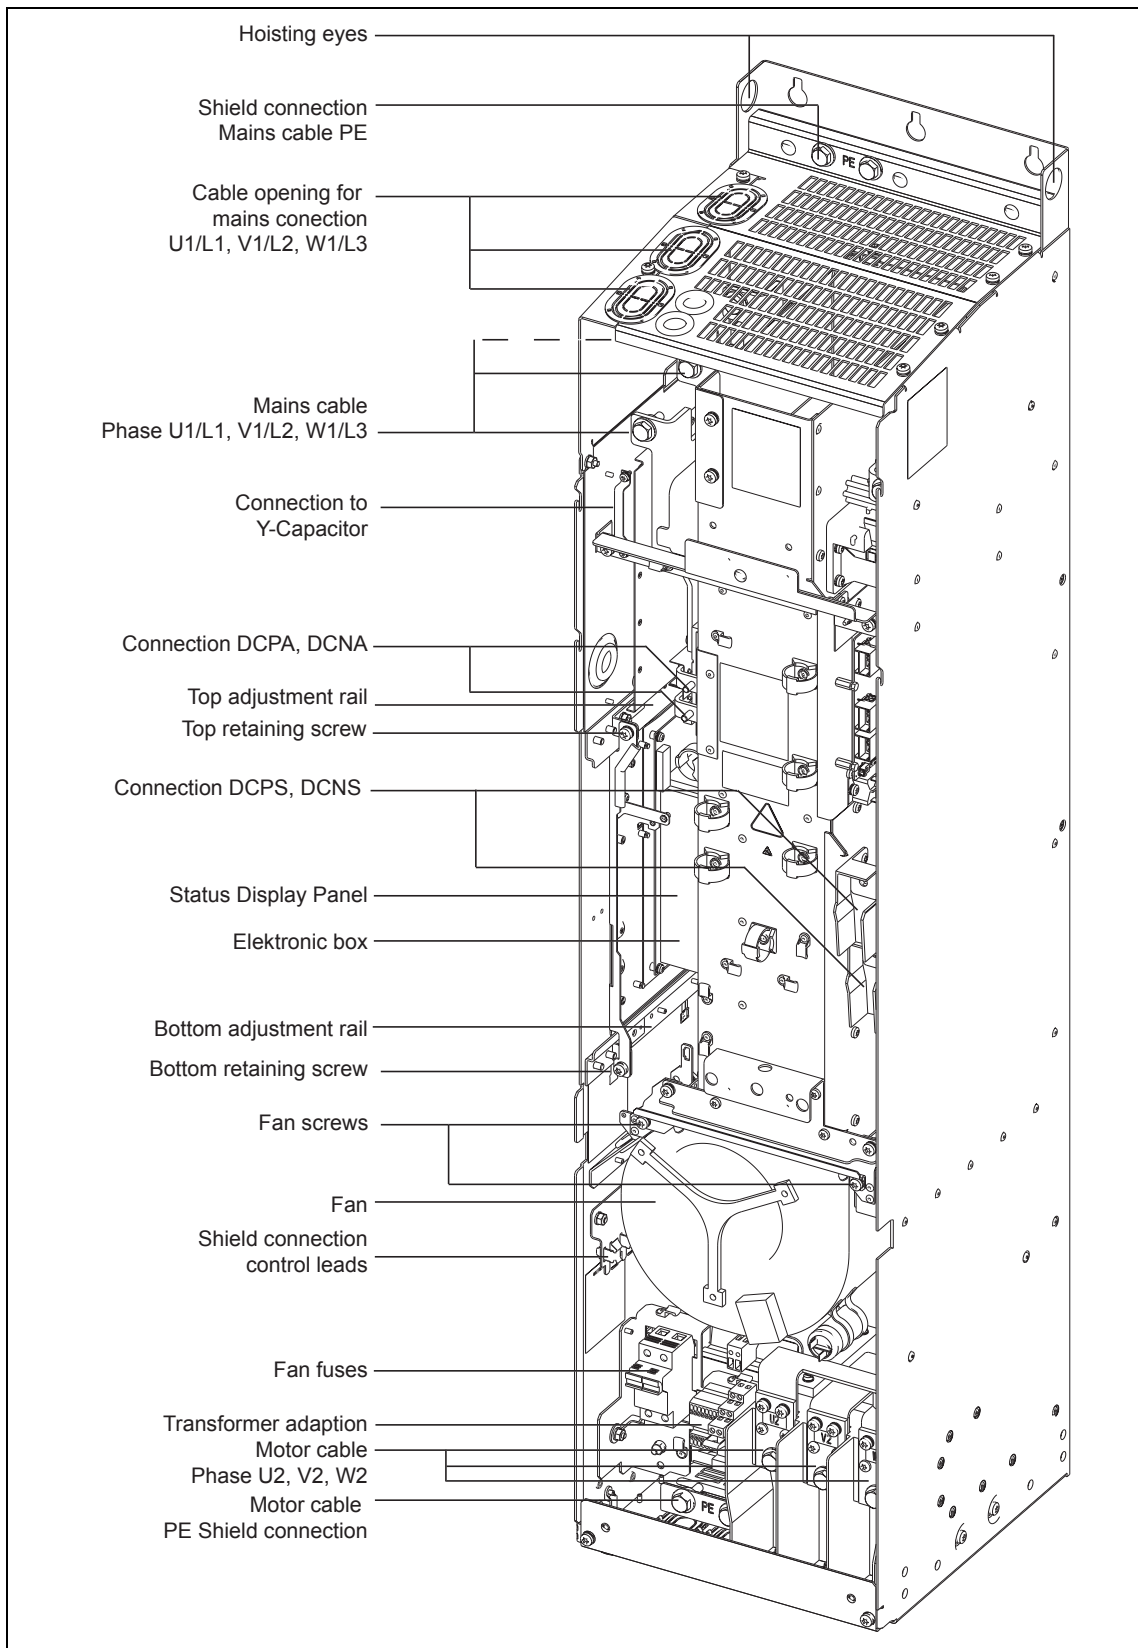

Figure 2-9 MICROMASTER 430 connection drawing – frame size FX
1. Fasten the hoisting crane cable to the hoisting eyes on the inverter (2 eyes (see Figure 2-9 for frame size FX Figure 2-10 for frame size GX).
Connect the wire shields to the shield connection points shown in the connection drawing (see Figure 2-9 and Figure 2-10) .